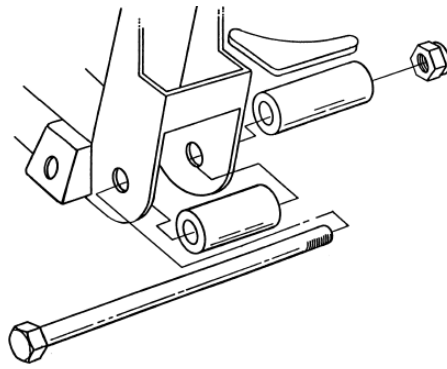

Figure 3- Spacers Install
5. If you purchased a complete I.F.S. Package from *HEIDTS*, it was supplied with Full Lower A-Arms. Begin by installing the Spacers onto the crossmember. The holes where the lower control arms attach to the Crossmember must be enlarged to 5/8". Mount the Crossmember Spacers and the Rear Spacers which were supplied with the Lower Control Arms onto the Crossmember as shown in **Figure 3 (next page)** using the supplied Inner Bushing Bolts, Nuts and a temporary spacer under the Nuts. **DO NOT** use the A-Arms for this operation as the welding heat will melt the rubber bushings. Tighten the nuts and bolts. Weld the rear spacers to the crossmember all around. Weld the crossmember spacers as far as possible inside the crossmember on both ends. Position the gussets horizontally, not vertically, against the rear spacers and the back of the crossmember. Weld gussets to spacers and crossmember. When it cools, remove the bolt.